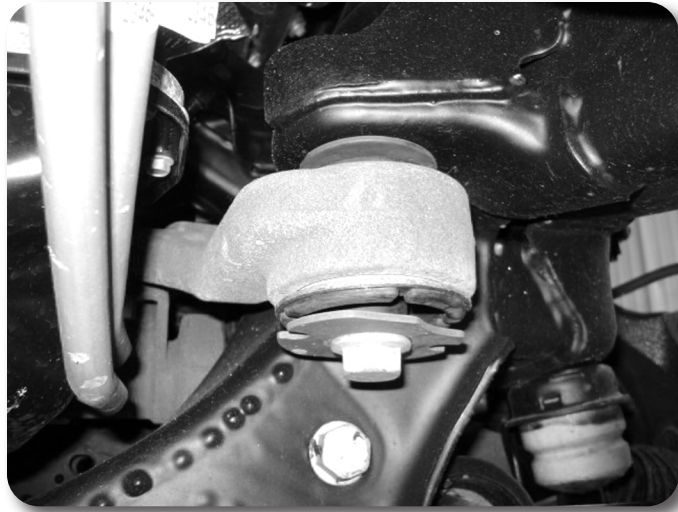

Figure 6a
13. Work on one side of the vehicle at a time. Remove the hardware that attaches the differential mounts to the frame. Figure 6a